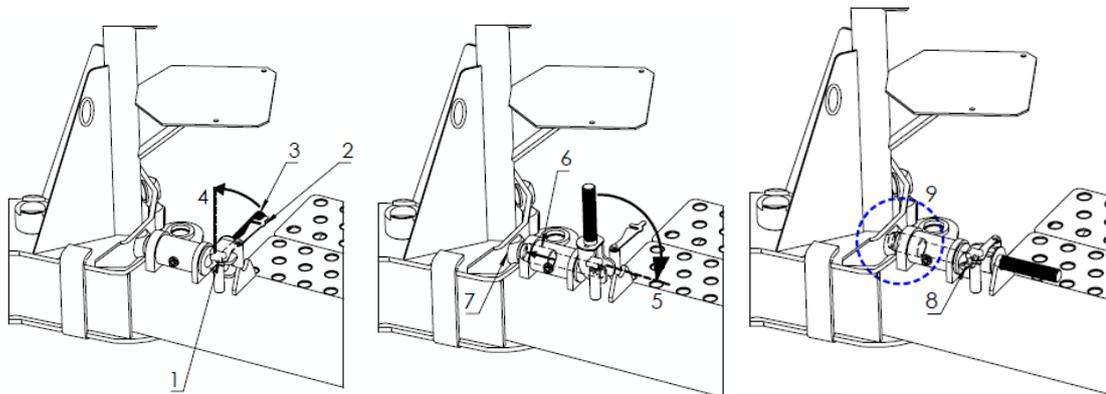

Figure 12. Locking the drawbar position
Mount the mechanical lock of the hitch position (**Fig. 12**)
- Put a wedge (1), that is supplied in the drawbar holder, under the right wheel of the Bale Wrapper
- Move the tractor slowly forward (3) until the drawbar reaches its extreme position (4).
- Set the lock of the drawbar position again (**Fig. 12**)